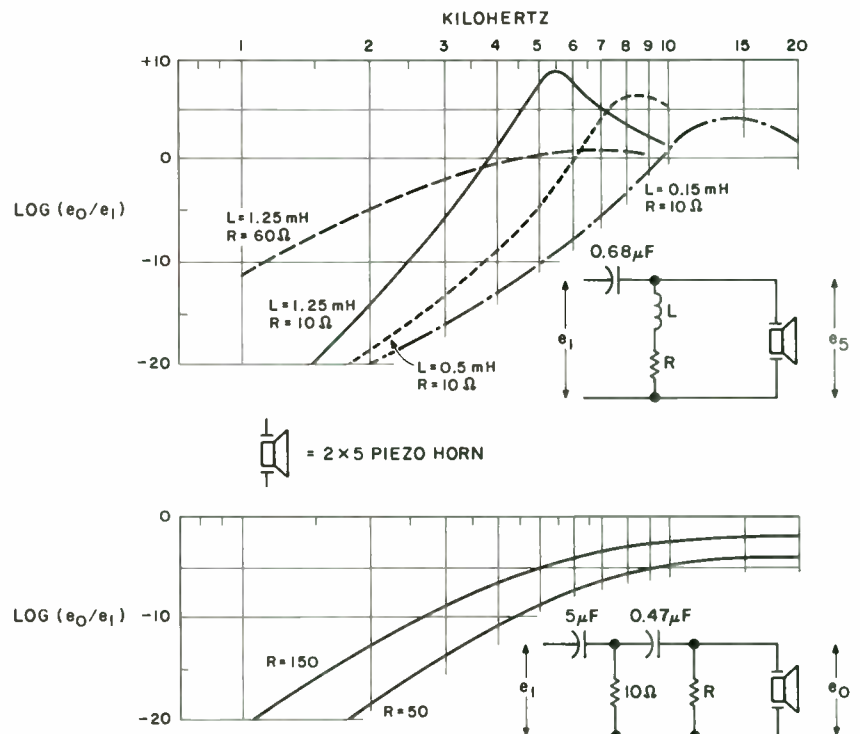

FIGURE 1: Output/input relationship versus frequency for 2-by-5 (top) and 2-by-6 (bottom) piezo horns.
5. I specified ¾-inch plywood in the cutting guide (*Fig. 1*) for the rest of the diagonal bracing. You might want to use pine 1x4s instead. In addition, the dimensions given for those diagonals in the size list (*Fig. 1*) are incorrect. The correct lengths are as follows: 43" should be 32", 20" should be 15¼", 36" should be 27¼", and 38" should be 28¾".
I would like to hear from anyone who has been able to rig up a piezo tweeter to make it sound acceptable. To date, I have been unsuccessful in my attempts to do so. I have used 2-by-5 and 2-by-6 piezo horns without a crossover and also with R-C crossovers. *Figure 1* shows the output/input relationship versus frequency